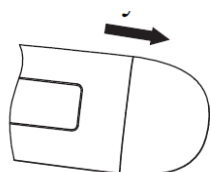

Figure 10
2. Pull battery cover off as shown in Figure 10.